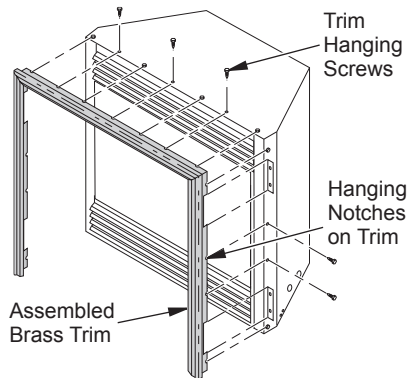

Figure 7 - Attaching Brass Trim to Fireplace (VSGF33NRA Shown)
8. Tighten trim hanging screws (#10 x 6.25 shoulder) into holes in cabinets. Place the assembled trim onto fireplace cabinet. Align hanging notches on trim with hanging screws on side of fireplace (see Figure 7). Push trim firmly into place, sliding hanging notches over hanging screws.
10. Install brass trim after final finishing and/or painting of wall (see Figure 7, page 9).